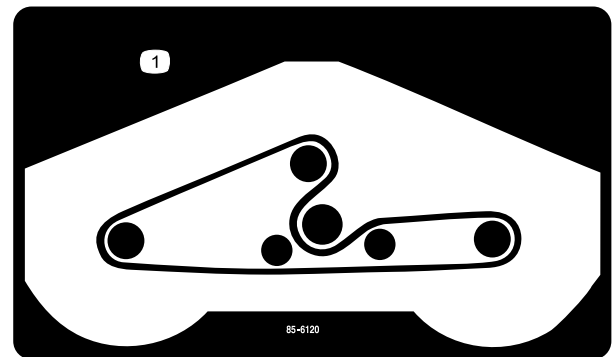

Figure 24
5. Route the new belt around the spindle pulleys and through the idler pulley assembly as shown in Figure 24.